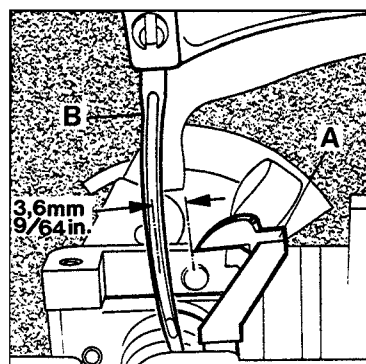

Fig.6A
Set the looper (A, Fig. 6A) so that the distance from the center of the needle (B) to the point of the looper is not less than 3.6 mm (9/64") when the looper is at its farthest end position from the needle. Looper gauge No. 21225-9/64 can be used advantageously in making this setting.